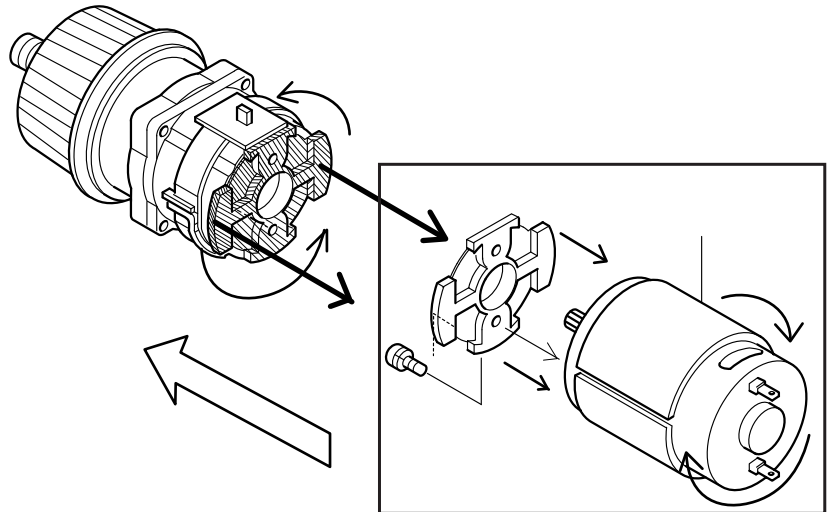

Fig. 2
And fasten motor bracket to motor with screw. See Fig.2.
2) Assemble motor equipped with motor bracket to gear assembly by turning clockwise. See Fig.2.